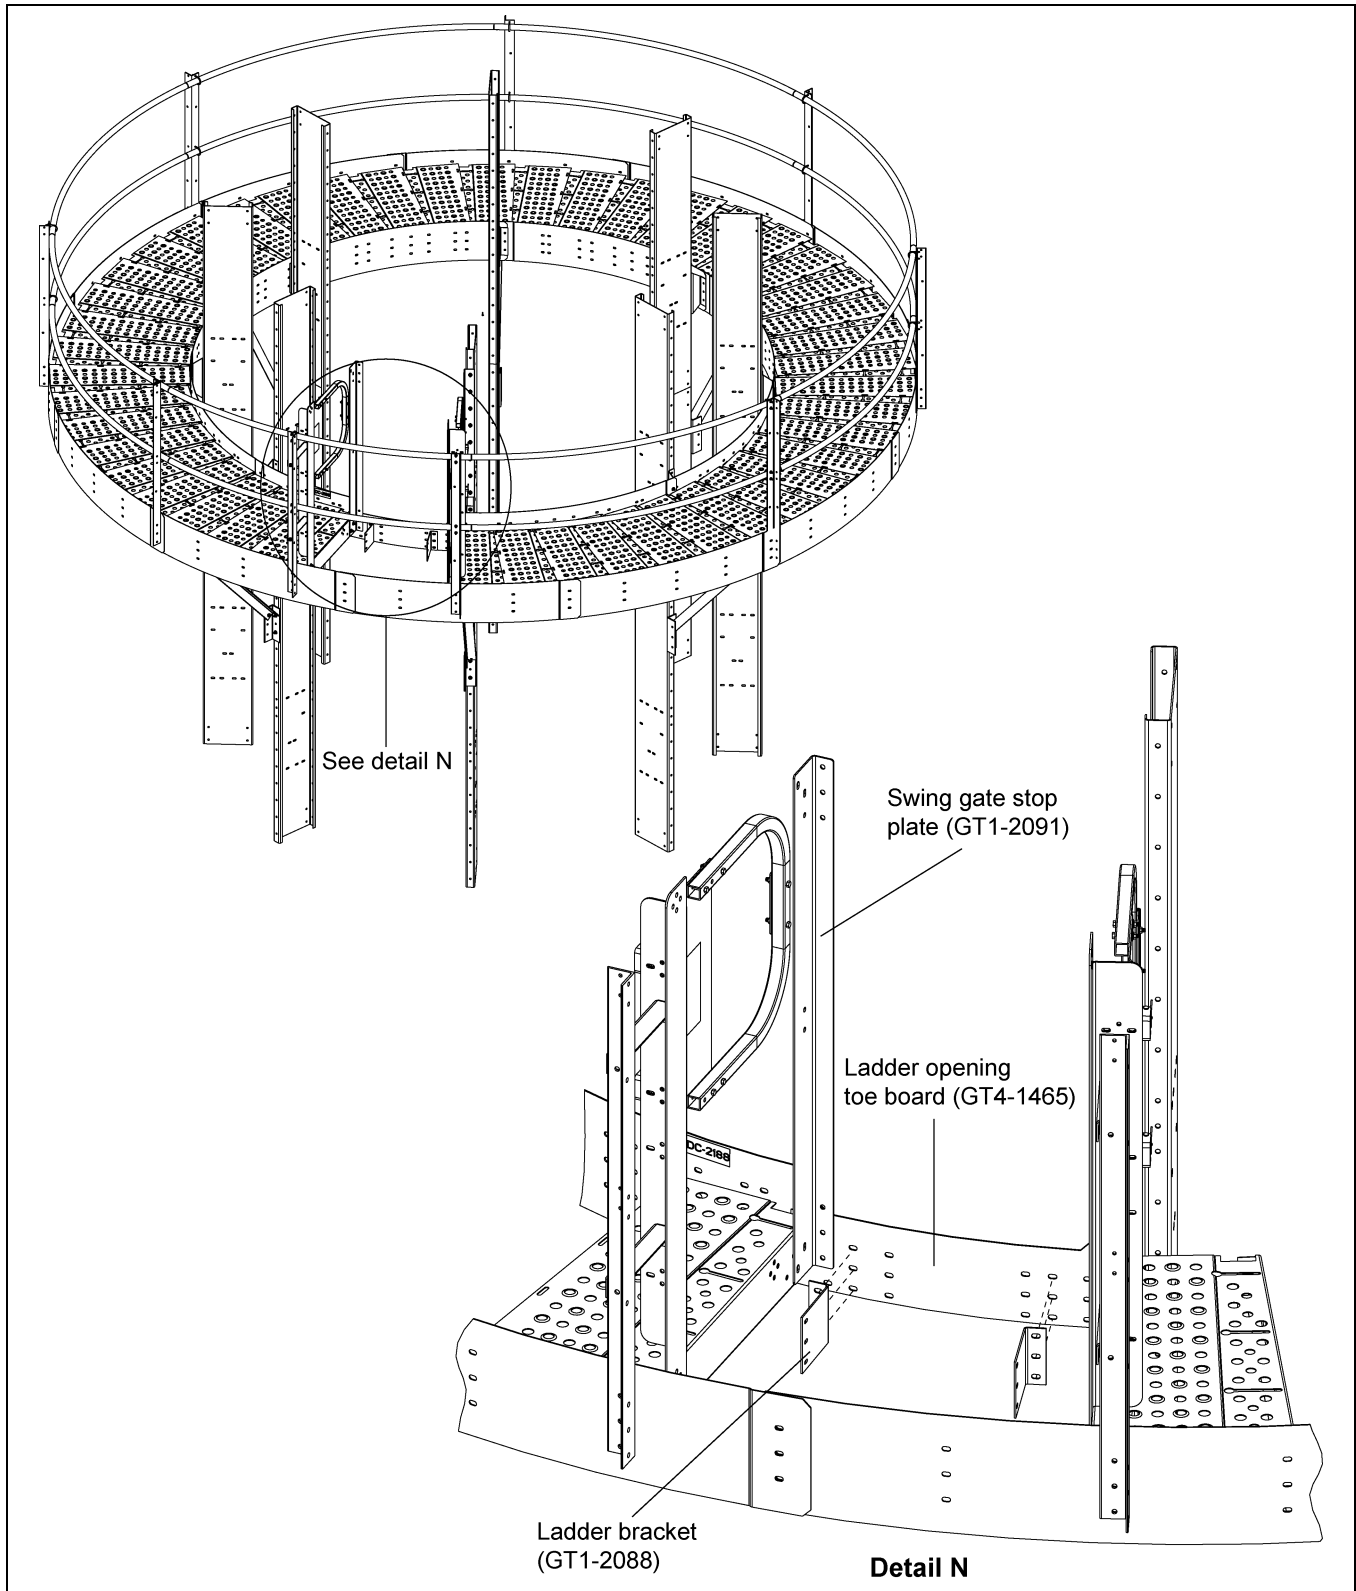

Figure 4Y
1. Install the ladder bracket (GT1-2088) to the ladder opening toe board (GT4-1465) using 3/8"-16 x 1" YDP grade 8 or grade 8.2 bolts (S-7927) and 3/8"-16 ZN grade 5 nuts (S-968). (See Figure 4Y.)